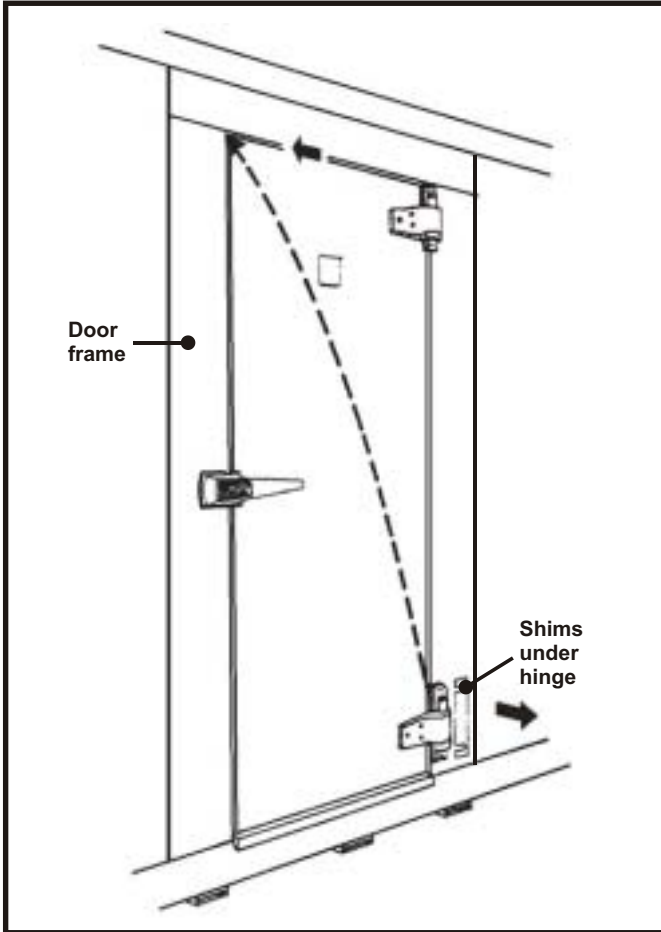

Fig. 4
- A. If the walk-in door is installed properly, no shimming is required. Shim only where improper structural procedures at the walk-in site, mis-application or poor installation of the door panel have caused the door cap to seal improperly. If the door cap toes outward at the top or bottom of the latch side of the panel, shim the diagonally opposite hinge base outward, forcing the corner of the door cap back into alignment with the door frame for a positive seal. See Fig. 4.